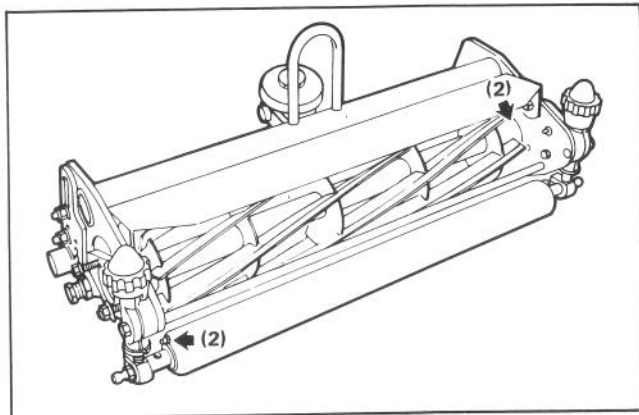

Figure 10
There are seven (7) grease fittings on each cutting (Fig. 10 & 11), which should be greased at least once every two weeks. Lubricate using a No. 2 multi-purpose lithium base grease. A hand operated grease gun is recommended for best results.